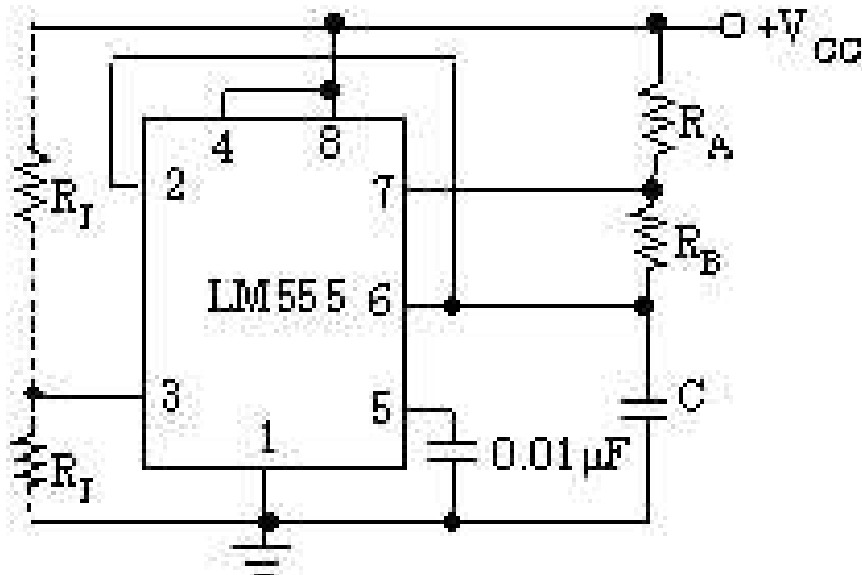

Figure 8. Astable Multivibrator circuit using the 555 Timer IC.
The use of the 555 Timer IC for an astable multivibrator circuit is shown in Fig. 8.
- b.) Modify the above circuit in order to obtain a duty cycle of $D = 10\%$. Refer to Figs. 8 and 9 above.